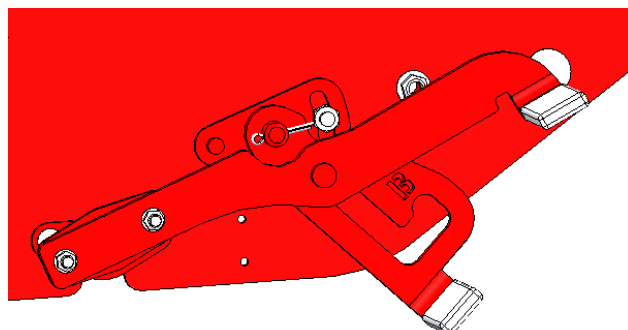

Figure 14: Adjust handle to "C" position
- a. Adjust the feed chopper bottom door with the handle located on the front tub wall; see *Figure 14*.